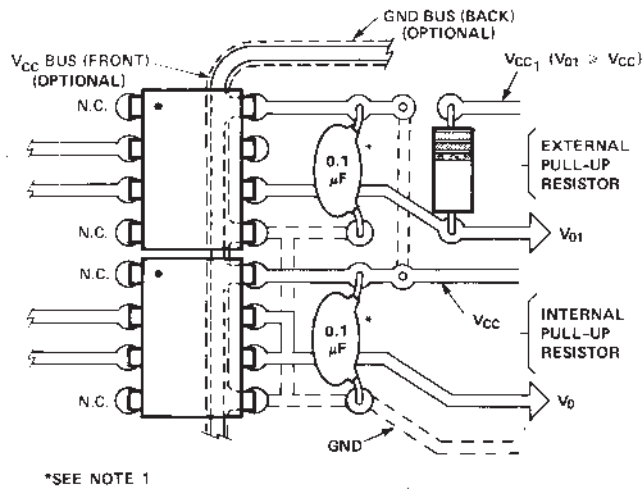

Figure 19. Recommended printed circuit board layout.
- By-passing the power supply line is required with a $0.1 \mu\text{F}$ ceramic disc capacitor adjacent to each optocoupler as illustrated in Figure 19. The power supply bus for the optocoupler(s) should be separate from the bus for any active loads, otherwise a larger value of bypass capacitor (up to $0.5 \mu\text{F}$) may be needed to suppress regenerative feedback via the power supply.
A recommended layout for use with an internal 1000 Ω resistor or an external pull-up resistor and required V_{CC} bypass capacitor is given in Figure 19. V_{CC1} is used with an external pull-up resistor for output voltage levels (V_O) greater than or equal to 5 V. As illustrated in Figure 19, an optional V_{CC} and GND trace can be located between the input and the output leads of the HCPL-2300/HCPL-0300 to provide additional noise immunity at the compromise of insulation capability ($V_{I,O}$).